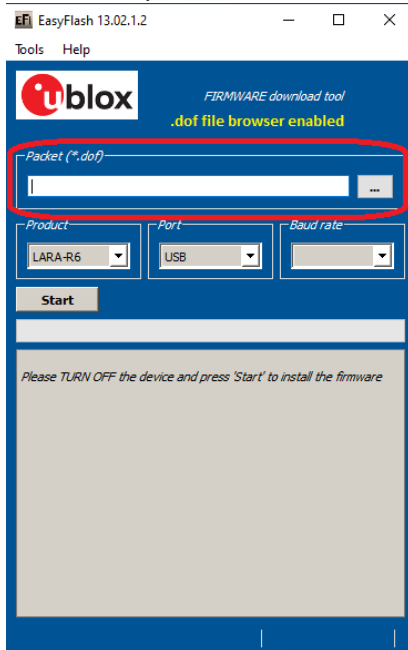

Figure 7: EasyFlash, select the ".dof" file path
- Select the path to the FW .dof flash file in the main window of the tool (see Figure 7).